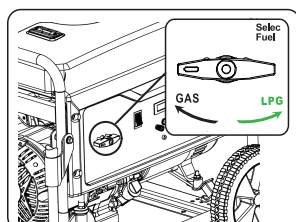

Fig 10
- Turn the fuel selector to “GAS” position (See fig 10)
- Turn the fuel selector to “LPG” position (See fig 10)